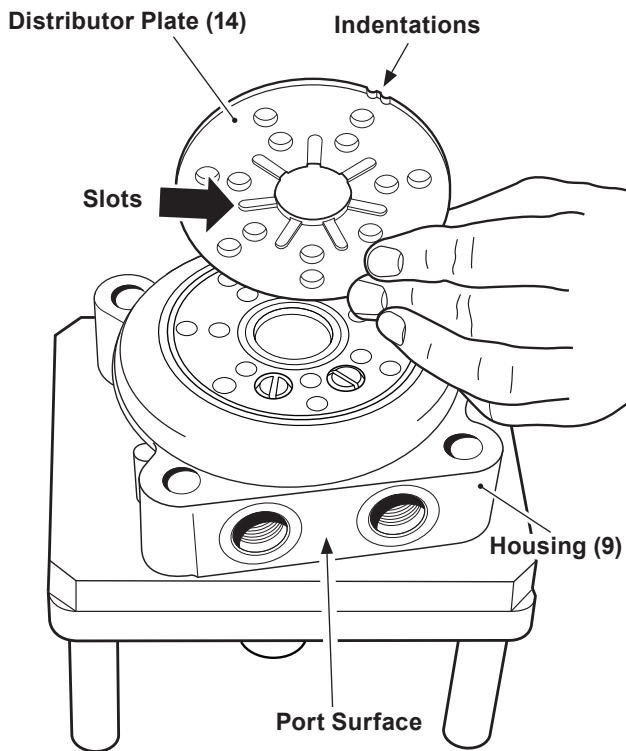

Figure 13, Distributor Plate
1. Mount seal (5), washer (4), and ball bearing (3) onto output shaft (7). *See page 11.*
2. Install check valves (11), needle bearing (12), output shaft assembly, retaining ring (2), and O-ring (13). *See pages 12 - 14.*
3. Turn the distributor plate (14) so that the slots are against the motor housing (9) and indentation in the distributor plate is pointing to port surface. *See figure 13.*